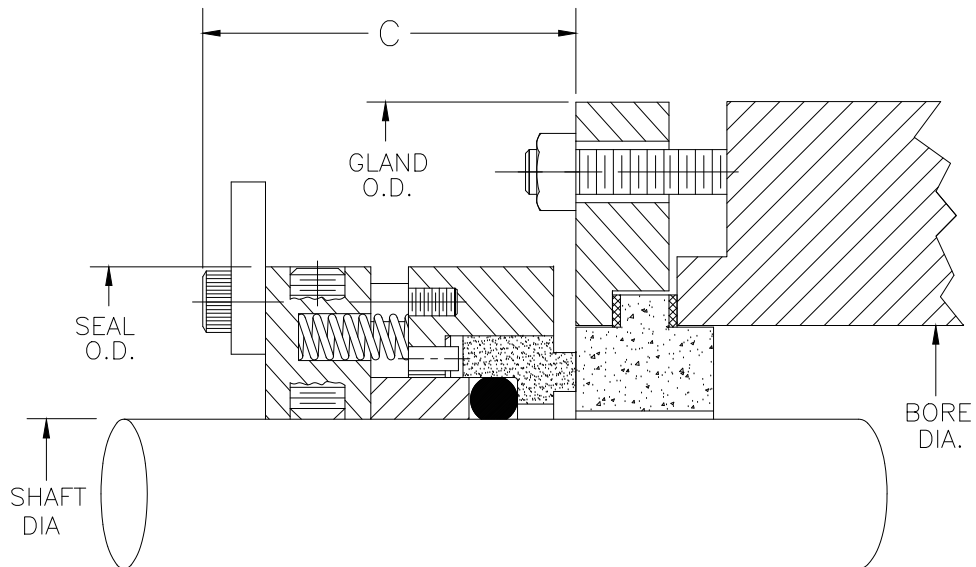

Figure 9: Seal area and layout when installed.
7. Move the seal assembly towards the seal chamber until the faces of the mating ring and seal ring are in contact (Figure 9).